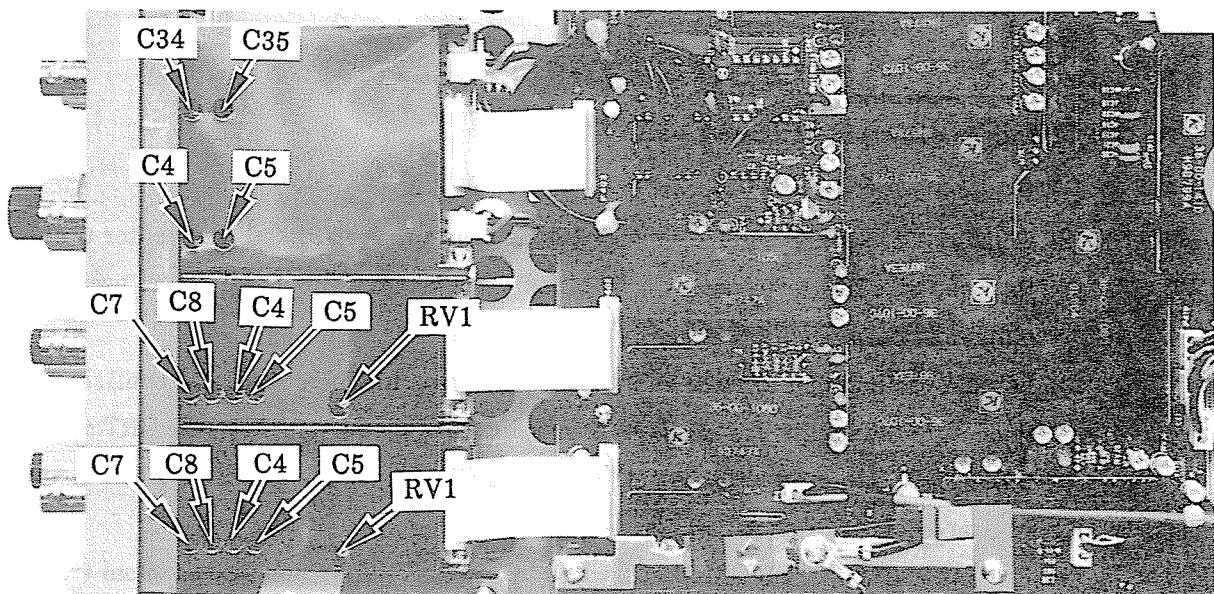

Fig. 4-21 Adjustment position of input attenuator (ATT)
- (1) Perform initial setting in accordance with Table 4-3.
- (2) Connect the fast rise square wave of 10kHz from the vertical axis calibrator to the input terminal of CH1 (terminated in 50 ohms), and set “TIME / DIV” of the oscilloscope to 0.5ms / DIV.
- (3) Set the oscilloscope to each range of CH1 shown in Table 4-9, and confirm that the flatness of the square waves when the amplitude of the waveform on the CRT screen is 6 DIV, is within  $\pm$ 3%. If it is not, adjust the CH1 phase compensator (C5, C8, and RV1) on board CH1-ATT shown in Fig. 4-21.
- (4) Press the “CH2” “VERT MODE” switch to put the oscilloscope into the dual trace mode, and connect the signal output to CH2.
- (5) Using exactly the same method as described in (3), check the flatness characteristics of the square wave for CH2 as well.
- (6) Connect a capacitance meter to the input terminal of CH1.
- (7) Set the deflection factor of CH1 to 10mV, and confirm that the input capacitance is  $20\text{pF} \pm 3\text{pF}$ . (The input capacitance is based on the 10mV range is 21pF, adjust the input capacitance of the 0.1V and 1V ranges to 21pF. Do likewise for CH2.)
Confirm that the input capacitance of each range of CH1 shown in Table 4-9 is within  $\pm 1\text{pF}$  compared to the input capacitance of the 10mV range. If it is not, adjust the CH1 input capacitance (C4, C7) on board CH1-ATT shown in Fig. 4-21.
- (2) Press the "CH3" and "CH4" "VERT MODE" switches. Turn "CH1" OFF and turn CH3 and CH4 ON (dual trace mode).
- (3) Set the deflection factor of CH3 and CH4 to 0.1V.
- (4) Set "TIME / DIV" of the oscilloscope to 0.5ms / DIV.
- (5) Connect the fast rise square wave of about 10kHz from the vertical axis calibrator to the input terminal of CH3 (terminated in 50ohms), and adjust the signal output to 6 DIV.
- (6) Confirm that the flatness characteristics of the square wave are within  $\pm 3\%$ . The flatness characteristics of the 0.1V range constitute the reference for the CH3 amplifier. If the flatness is not within  $\pm 3\%$ , replace the CH3 / CH4 - ATT unit.
- (7) Set the deflection factor of CH3 to 0.5V.
- (8) Adjust the amplitude of the waveform on the CRT screen to 6 DIV.
- (9) Confirm that the flatness characteristics of the square wave on the CRT screen are within  $\pm 3\%$ . If they are not, adjust the CH3 phase compensator (C5) on the CH3 / CH4 - ATT board shown in Fig. 4-21.
- (10) Connect the fast rise square wave signal to CH4.
- (11) Using exactly the same method as described in (5) to (9), check and adjust the square wave characteristics of CH4 as well.
- (12) Connect a capacitance meter to the input terminals of CH3.
- (13) Set the deflection factor of CH3 to 0.1V, and confirm that the input capacitance is  $20pF \pm 3pF$ . (The input capacitance of the 0.1V range constitutes a reference. For example, if the input capacitance of the 0.1V range is  $21pF$ , adjust the input Capacitance of the 0.5V range to  $21pF$ . Do likewise for CH4.)
Confirm that the input capacitance of each range of CH3 shown in Table 4-9 is within  $\pm 1pF$  compared to the input capacitance of the 0.1V range. If it is not, adjust the CH3 input capacitance (C4) on board CH3 / CH4 - ATT shown in Fig. 4-21.